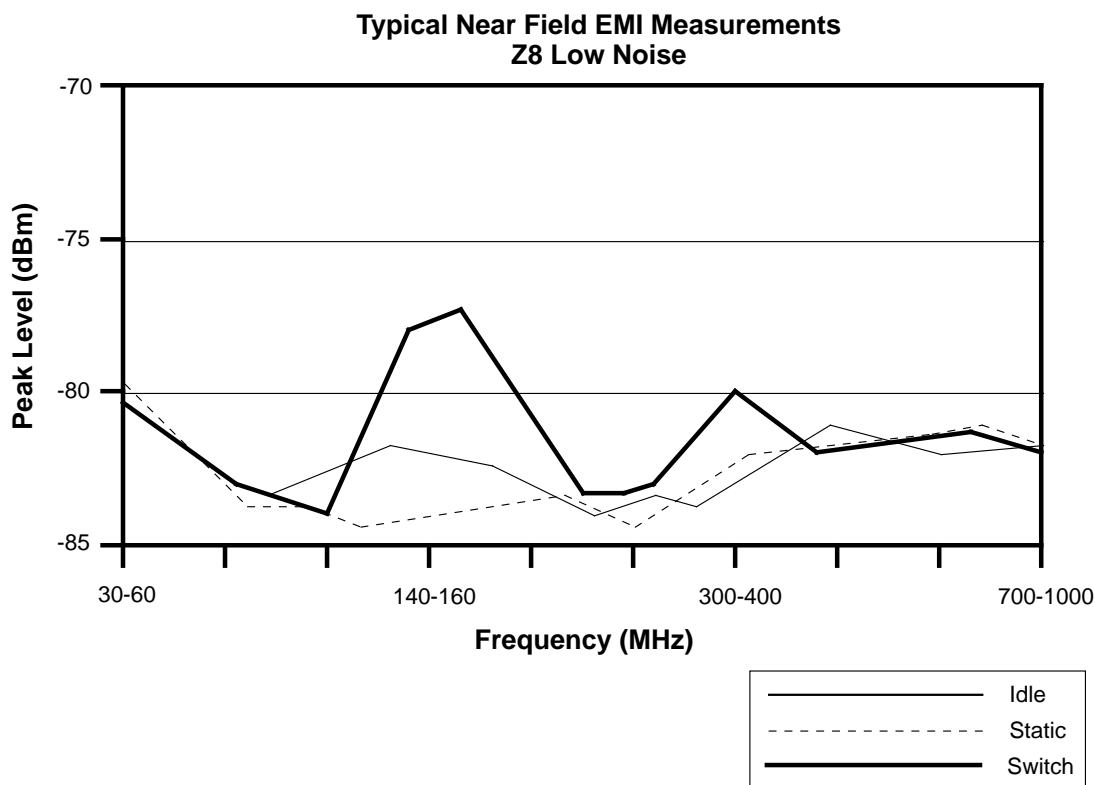

Figure 6. Typical Low Noise Measurements
The measurements, shown in Figure 6, were made while operating the Z8 in three states: (1) idle condition; (2) static output; (3) switched output.